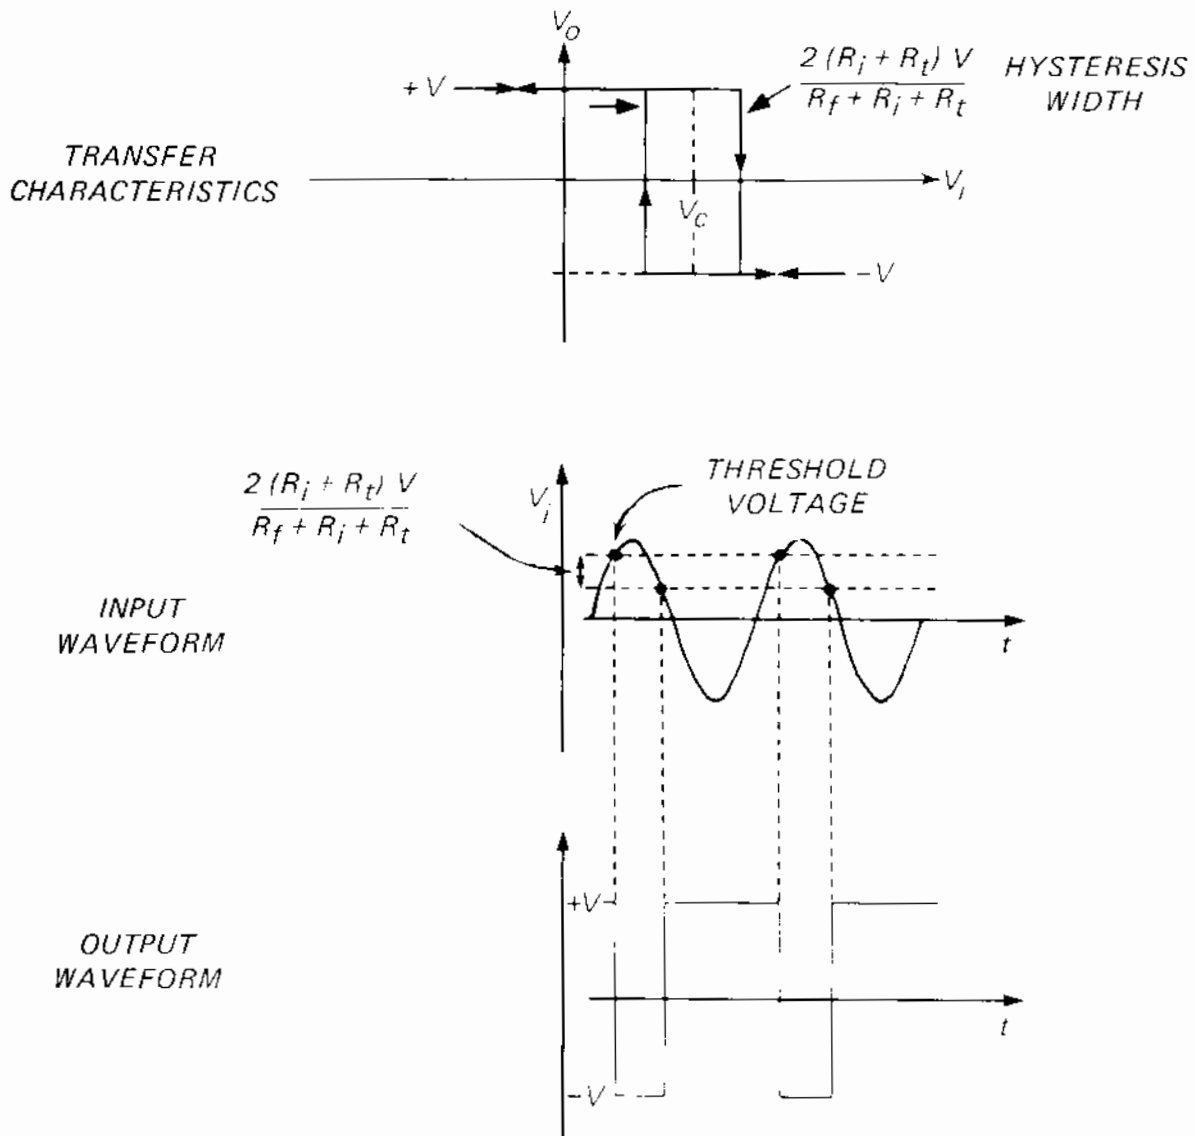

Figure 6. VOLTAGE TRANSFER CHARACTERISTICS of the voltage level detector of Figures 4 and 5 with typical input and output waveforms.
Formulas (5) and (6) are derived in the Appendix. One possible transfer characteristic for this circuit is shown in Figure 6.